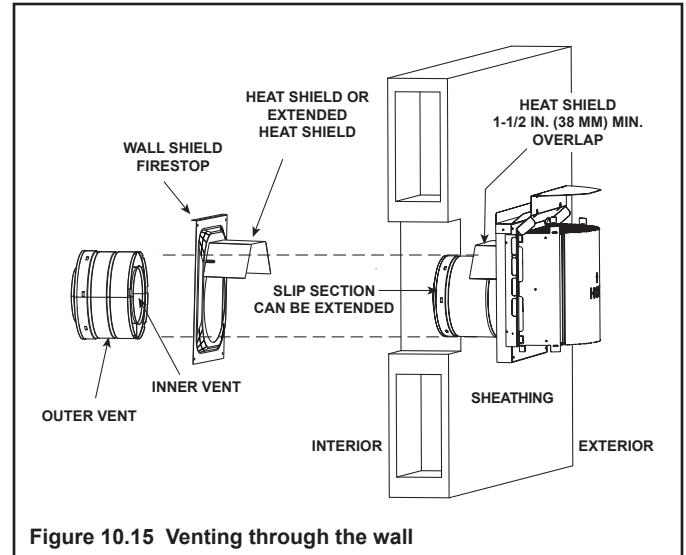

Figure 10.15 Venting through the wall
- Caulk the perimeter of the flashing where it contacts the roof surface. See Figure 10.15.
- **DO NOT** remove the heat shields attached to the wall shield firestop and the horizontal termination cap (shown in Figure 10.15).
There are two sections of the heat shield. One section is factory-attached to the wall shield firestop. The other section is factory-attached to the cap. See Figure 10.15.